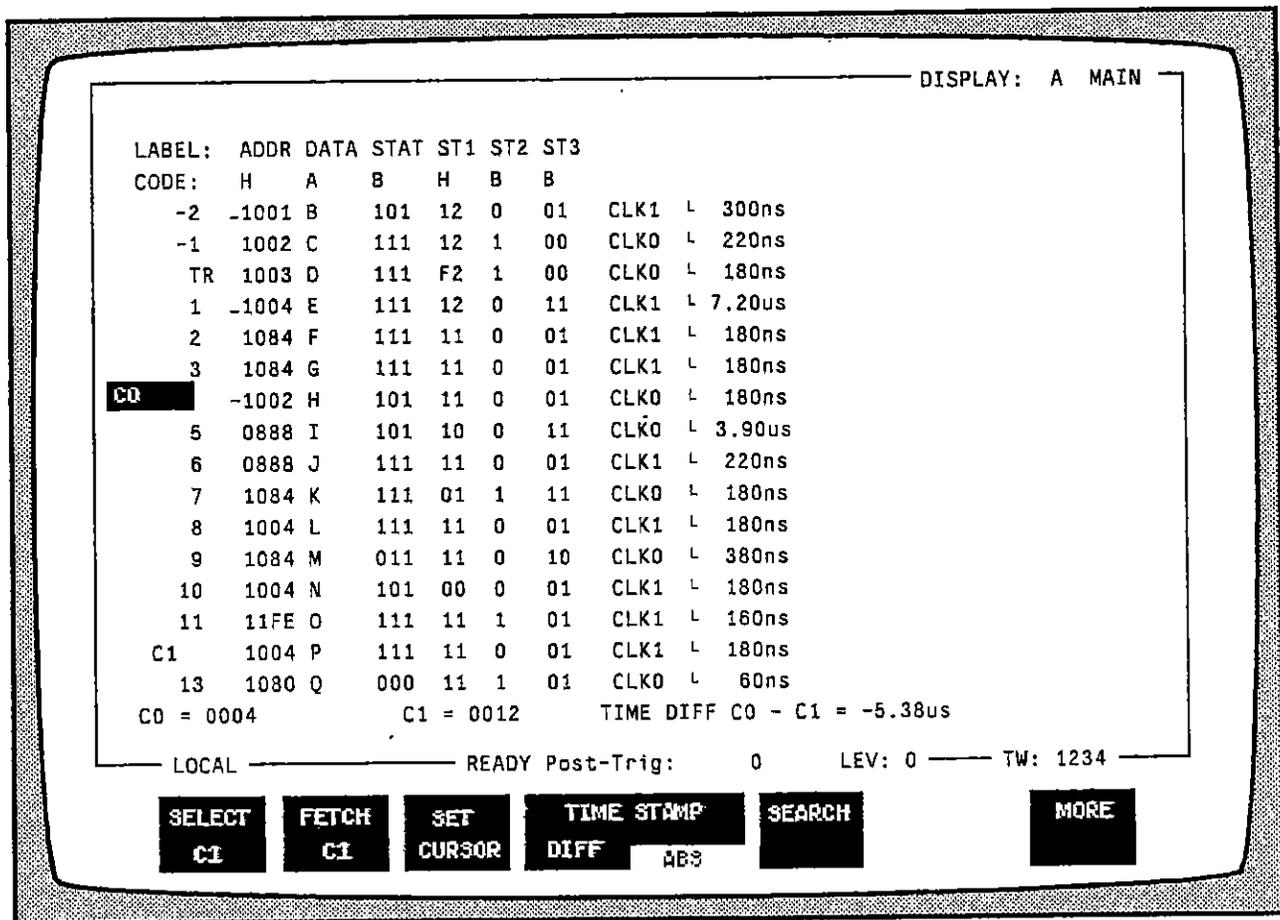

Fig. 7-5: Collection in the STATE display
**Explanation of Fig. 7-5:**
Fig. 7-5 a